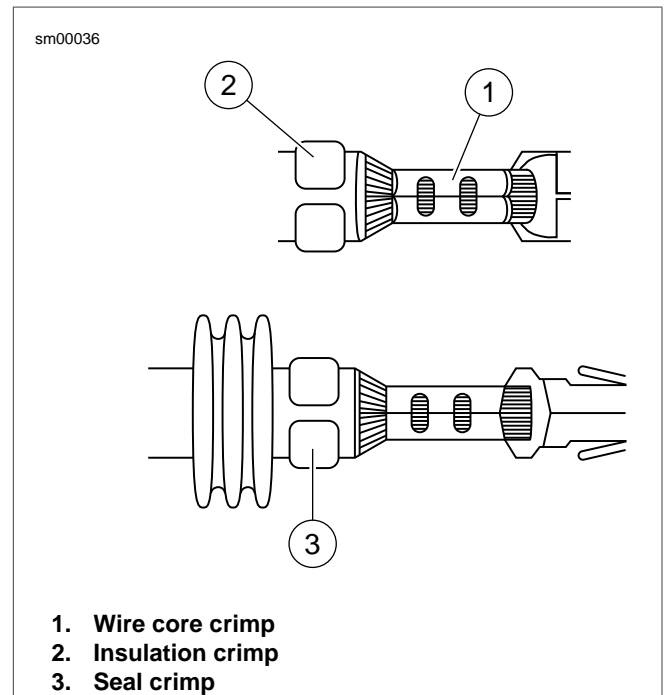

Figure A-34. Metri-Pack Connector: Inspect Core and Insulation/Seal Crimps
1. See Figure A-34. Identify the correct die for the insulation/seal crimp (2).
1. See Figure A-34. Inspect the wire core crimp (1). The tails should be folded in on the wire core without any distortion or excess wire strands.
2. Inspect the insulation (2) or seal (3) crimp. The tails of the terminal should be wrapped around the insulation without distortion.